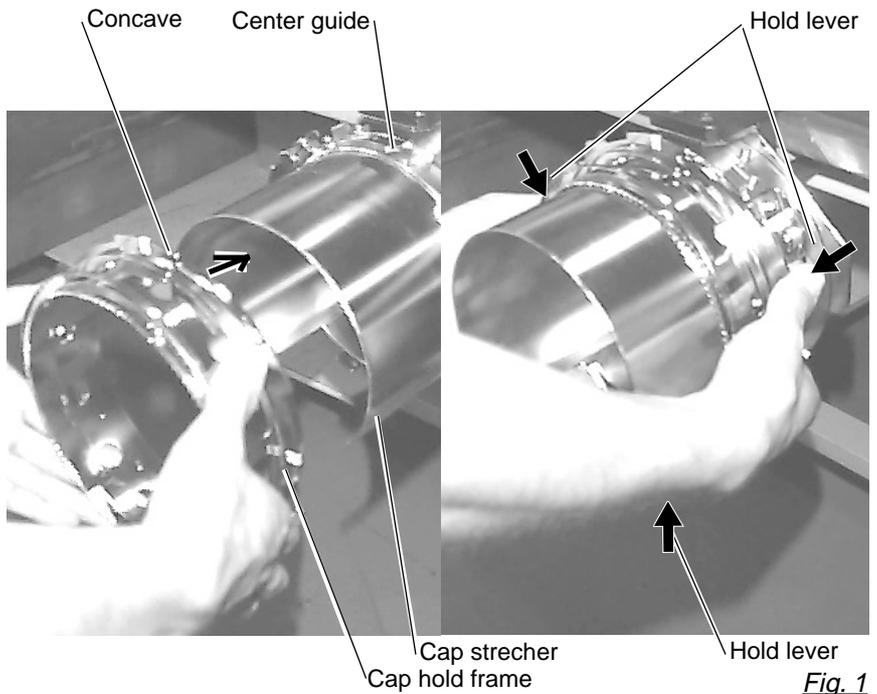

Fig. 1
1. Adjust the length of the cap grip to suit the thickness of the fabric. At this moment, hook should open and close without feeling heavy. (For the adjustment follow the next page "Hooping caps" item 1 to 5.) The adjustment to be done by three adjusting screws. (Fig. 1)
2. As shown in Fig. 1, hold cap hold frame with both hands and place on cap stretcher. By pushing hold lever at 3 places in arrow marks with fingers, place cap hold frame so that center guide of cap stretcher gets in concave of upper cap hold frame.